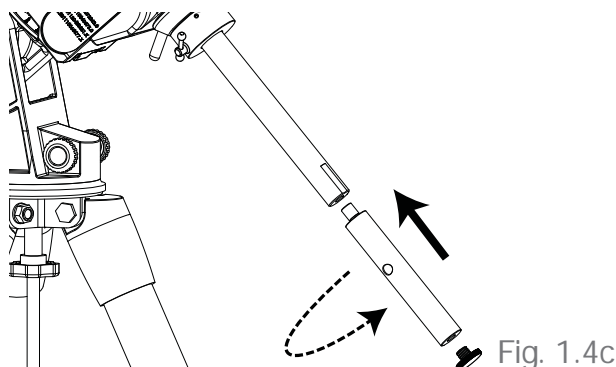

Fig. 1.4c
4. The AZ-EQ6 GT mount comes with a 150mm counterweight rod extension, which can be installed at this point if necessary. Ensure the extension is tightly secured before installing counterweights. (Fig. 1.4c) 4. AZ-EQ6 GT赤道仪带有一根150毫米长的配重杆延长杆，如有必要可在此时装在配重杆上。在安装配重前需严格确保延伸足够合适。